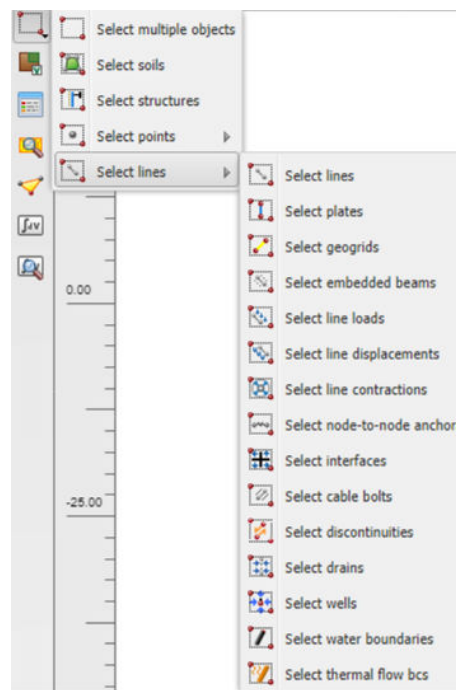

Figure 48: Select multiple objects
2. Click the **Select multiple objects** button in the side toolbar. In the appearing menu select **Select line > Select plates** as shown in Figure 48 (on page 64).